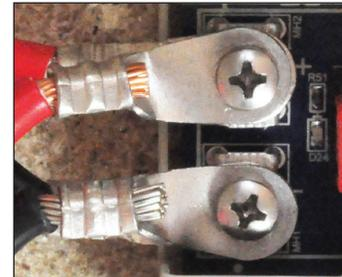

Figure 19. DC Power Bus\*.
7. Cut the red and black wires to length, terminate the ends and screw them to the terminal post on the 911 module labeled "DC Power Bus." Wire red to "+" and black to "-" and tighten the screws securely (Figure 19).